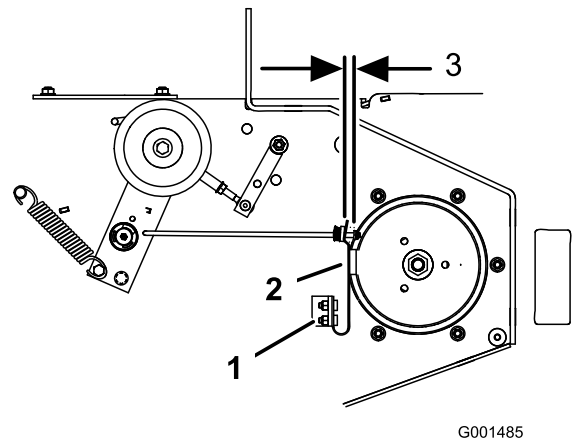

Figure 68
3. If necessary, adjust the spring mounting bolts so that the blade brake pad rubs against both sides of the pulley groove (Figure 68).
4. Adjust the nut at the end of the blade brake rod until there is 1/8-3/16 inch (3 mm -5 mm) between the nut and spacer (Figure 68).